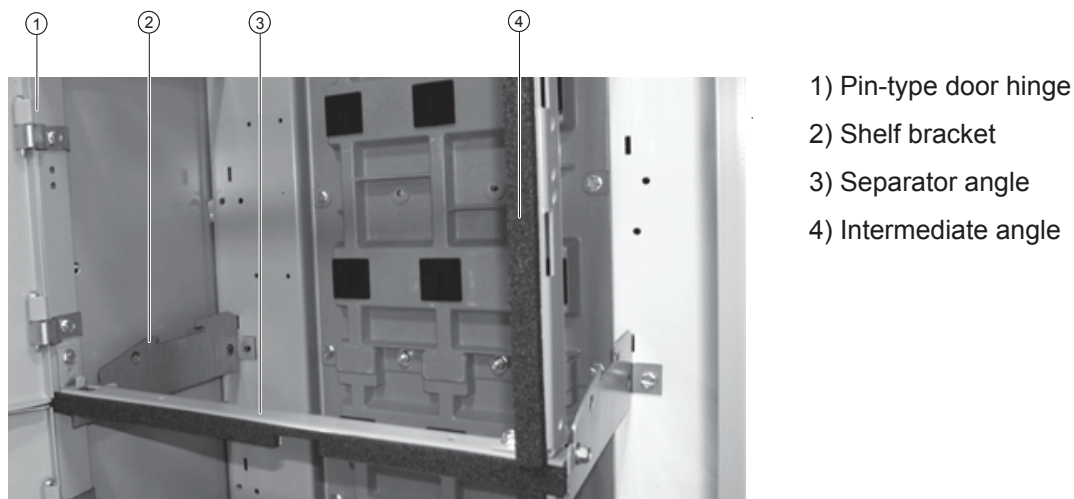

Figure 2 - Unit Support Components
2.8.3. Include intermediate angles in all spaces (See Figure 2).